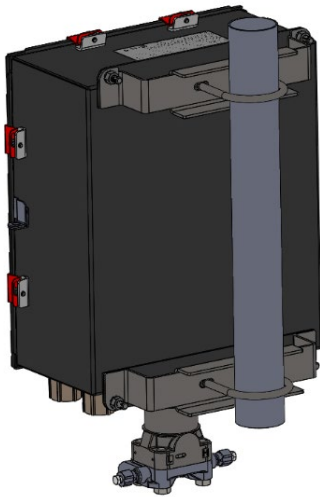

Figure 7. FB2200 (Aluminum Enclosure) on Pipe Mount
- 2. The FB2200 mounts on a two-inch pipe or pole (see Figure 7) or can be wall- or panel-mounted using the four holes in the case and suitable attachments.
- Insert each bare wire end into its appropriate connector and secure the wire (see Figures 7 and 8).